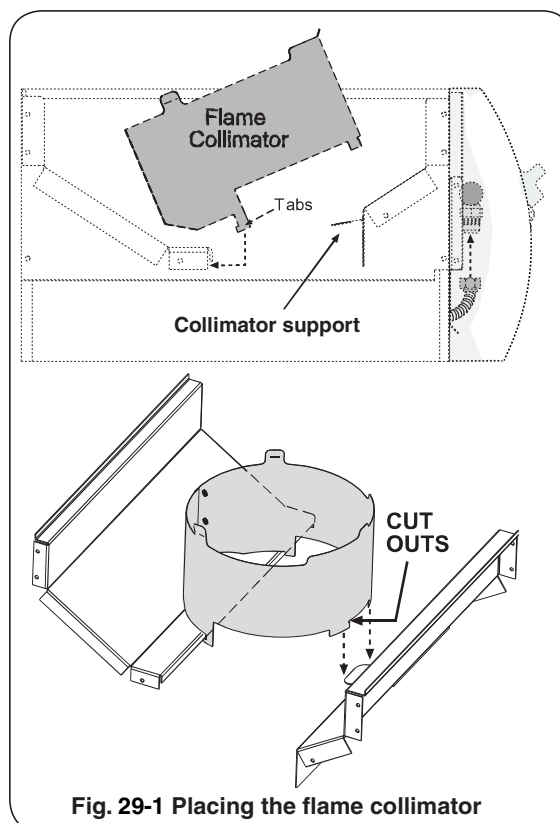

Fig. 29-1 Placing the flame collimator
1. Place the flame collimator over the burner with the tabs and cutouts resting on the inner shell, as shown in Fig. 29-1. Flex the front of the collimator towards the burner until the cutouts fit down around the collimator support. This will lock your collimator into place. The flame collimator acts as a barrier for windy conditions and creates higher BTU concentration to the support grid.
1. Remove the cover, cooking grid, and flame collimator. Compress the collimator front to back to release the front lock then rotate up as shown in Fig. 29-1.